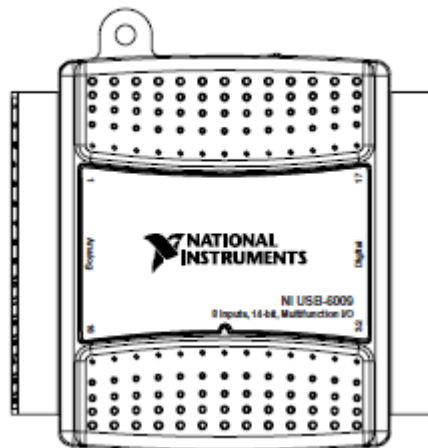

Figure 1: USB 6008 DAQ
1. Data Acquisition Cards (DAQ) USB 6008 DAQ in Figure 1.